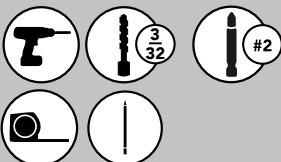

FIG. 1
Center the wood frame left to right in the opening. Position the front of the wood frame even with the front of the face frame. Attach to bottom of cabinet using (5) #8 x 3/4" truss head screws (See Figure 1).